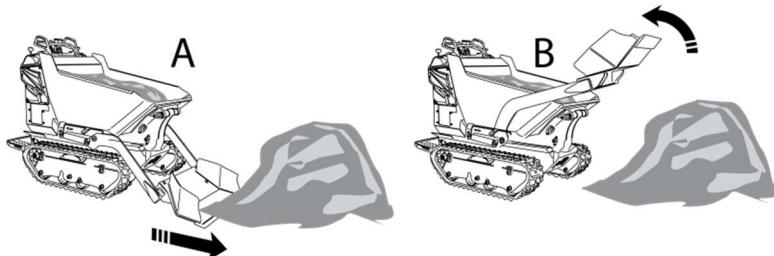

fig.4.8 - Operation of the Self-Loading Arm
* The values indicated in Table 1 refer ONLY and EXCLUSIVELY to the LOW DISCHARGE condition (see Fig. 4.8 a). For the HIGH DISCHARGE condition (see Fig. 4.8 b), strictly follow the instructions provided in §4.7 and Table 2.
To perform the self-loading operation (see Fig. 4.8):